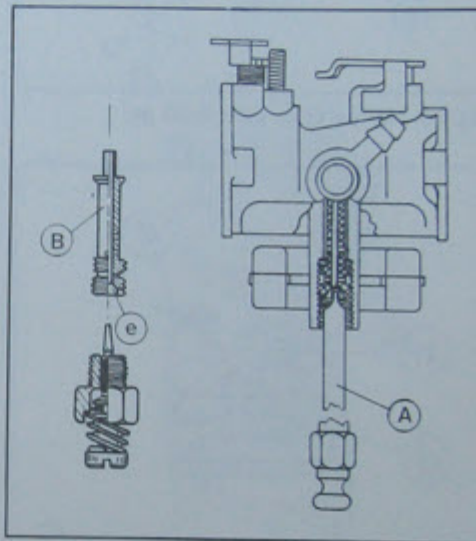

Fig. 40 Removing main jet
replace main jet, use special tool supplied by Aspera (see Fig. 40).
- Check that screwdriver cut in main nozzle (part B Fig. 40) is not damaged and that the main adjustment screw seat is not deeply stepped or otherwise damaged. Check that fuel orifice in main jet (denoted by e in Fig. 40) is not obstructed or the hole distorted. Replace if damaged.